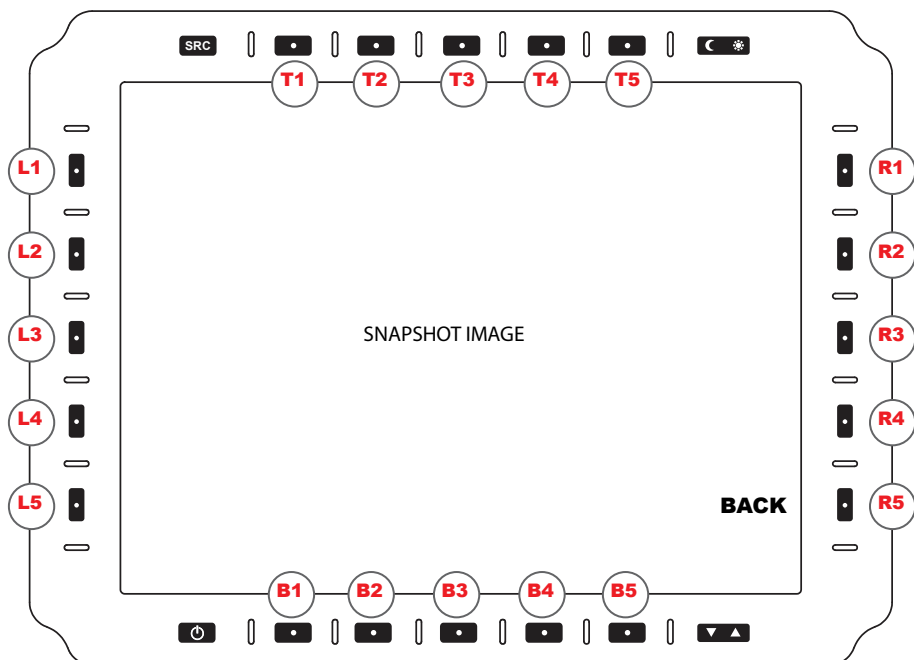

Figure 15
**VIEW (L1).** Displayed if image is selected, then shows selected file. This takes user to Snapshot Viewer Menu (see Figure 15).